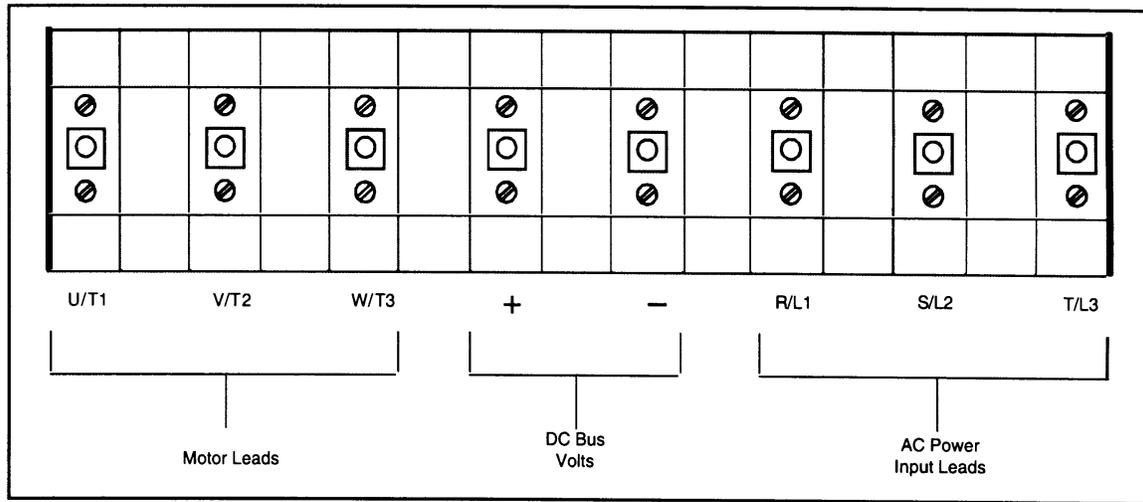

Figure 2.11 – DC Bus Voltage Terminals (15 to 25 HP @ 460V)
- ii. Use a voltmeter to measure the DC bus potential at the DC bus power terminals as shown in figures 2.11 (15 to 25 HP) and 2.12 (25 to 60 HP).